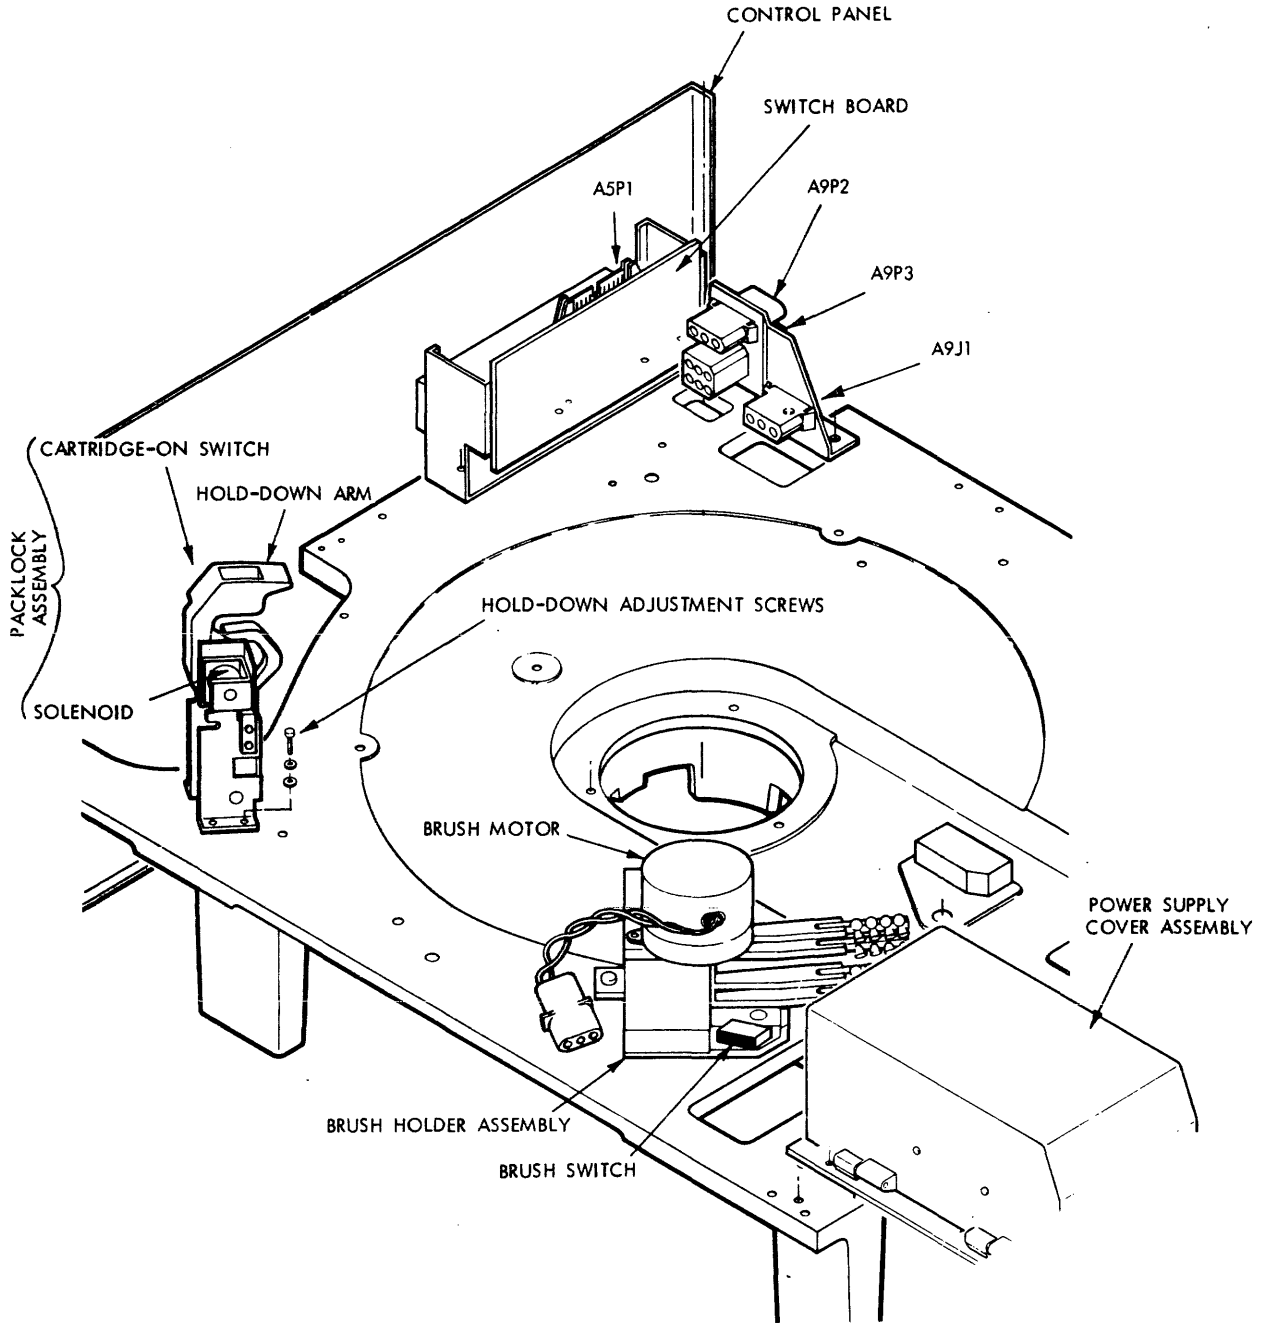

Figure 3-13. Packlock and Brush Assemblies
13. Remove two screws, washers and nuts securing switch assembly to hold-down arm and remove switch. (Refer to figure 3-13.)
- a. Loosen hold-down arm adjustment screws (figure 3-13).
13. Disconnect wires from brush retract switch (see figure 3-13).